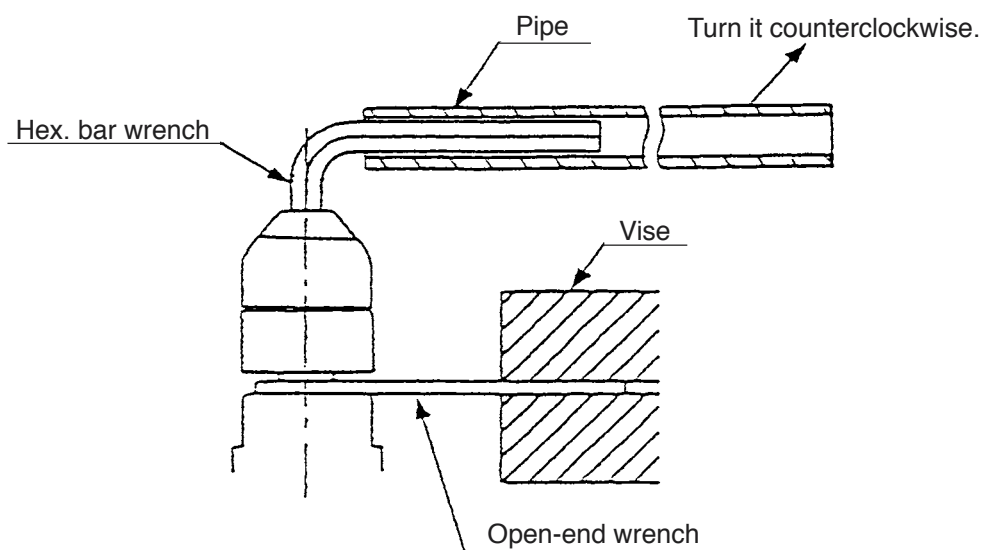

Fig. 8
- b. Hold the Spindle [4] <4> (4) with the open-end wrench secured to the vise as shown in Fig. 8. Mount the pipe to the hex. bar wrench. Turn the hex. bar wrench counterclockwise to loosen the drill chuck. (Fig. 8)